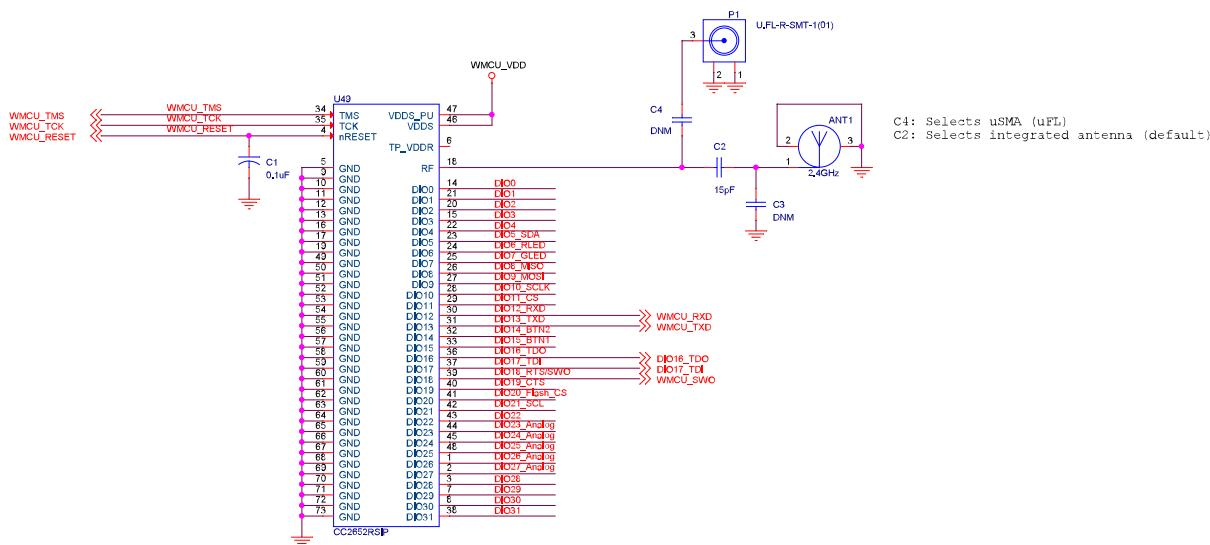

Figure 10-1. CC2652RSIP Typical Application Schematic
Figure 10-1 shows the typical application schematic using the CC2652RSIP module. For the full reference schematic, download the LP-CC2652PSIP Design Files.
Table 10-1 provides the bill of materials for a typical application using the CC2652RSIP module in Figure 10-1.
In order to meet the module power-on-reset requirements, an external 0.1  $\mu$ F capacitor is required on the nRESET pin during power ON. In addition, VDDS (Pin 46) and VDDS\_PU (Pin 47) should be connected together. If the reset signal is not based upon a power-on-reset and is derived from an external MCU, then the external capacitor will not be needed and VDDS\_PU (Pin 47) should be No Connect (NC). Please refer to Figure 10-1 for the recommended circuit implementation and Table 10-1 for the recommended 0.1  $\mu$ F capacitor.